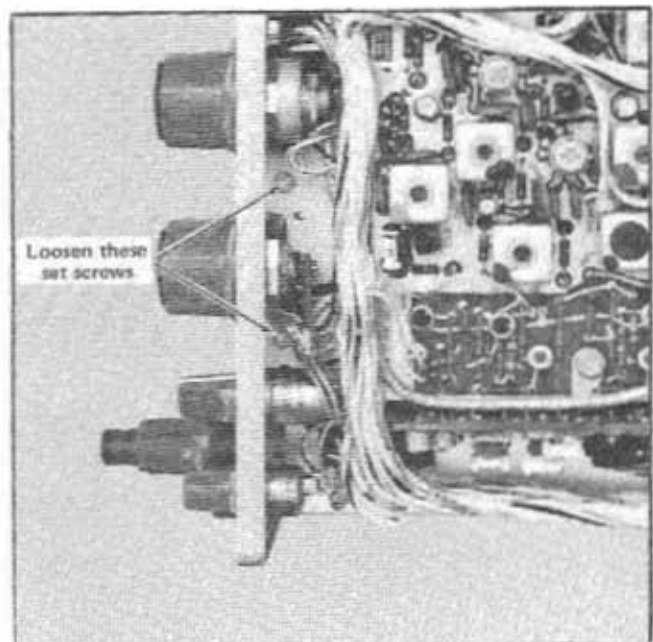

Fig. 4-8. Location of the set screws holding the RF casting to the front panel.
4. Loosen the two Allen set screws that hold the RF casting to the front panel (see Fig. 4-8).